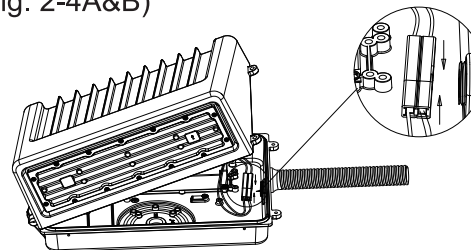

Fig. 2-4A
4. Connect the quick connect terminal, then screw the fixture with bottom plate. (Fig. 2-4A&B)